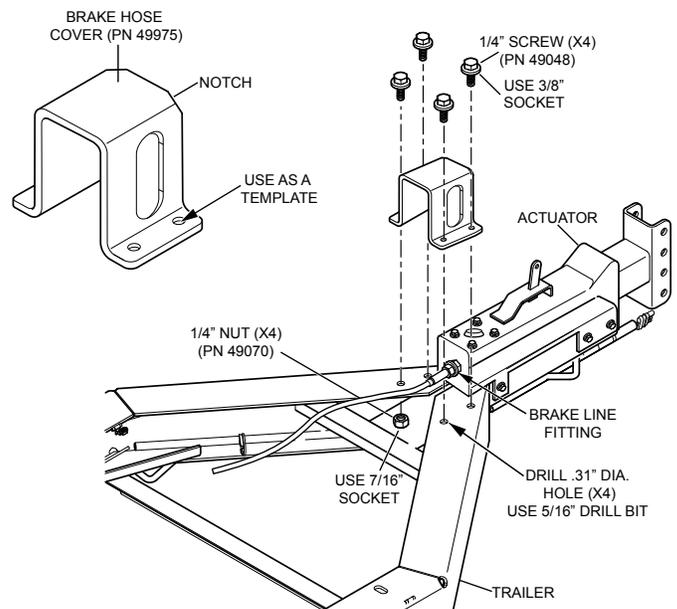

Figure 2. Brake Hose Cover Installation
2. Next, place brake hose cover **over the brake line fitting** as shown in Figure 2 with the notched side of the cover facing towards the brake actuator.
4. Using a 5/16" drill bit, drill four holes as shown in Figure 2. Deburr all holes.